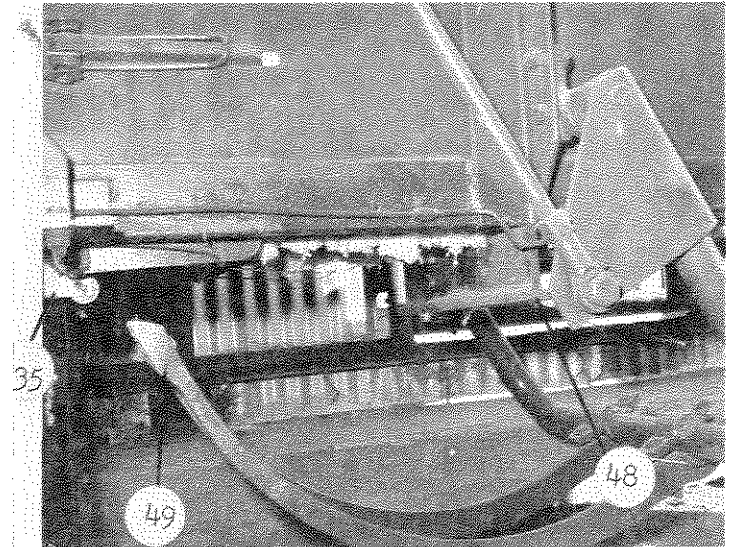
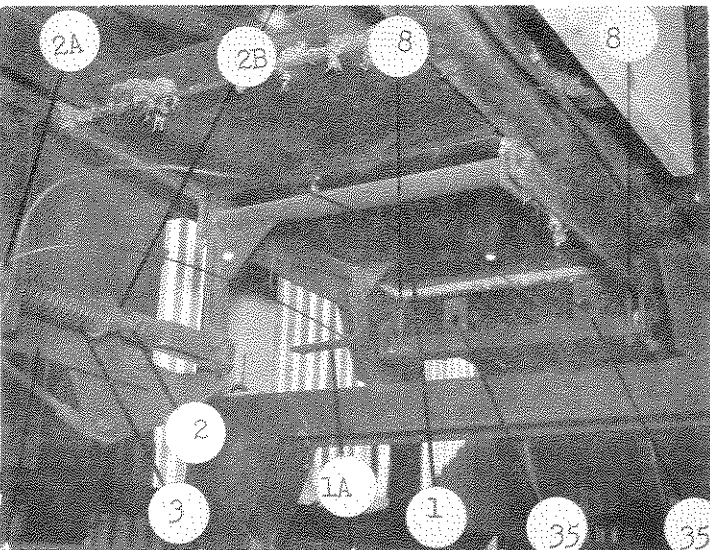
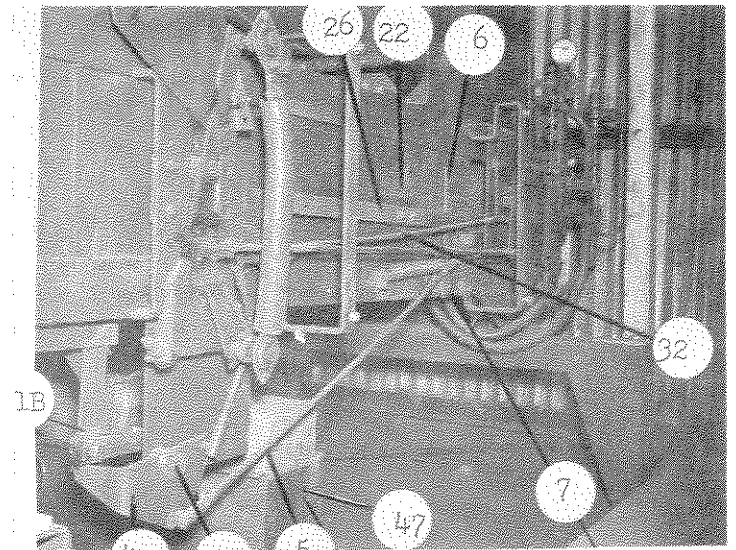

Fig. 4
Fig. 5
Fig. 6
1. Put wire in wire box with "start" end facing flared holes in box. Slide box under middle of baler with flared holes facing wire guides, Ref. 35, Fig. 5. Thread wire through eye and between the three rollers of the wire guides, Ref. 35, Fig. 4 and 5. Tie wire to cross frame, Ref. 48, Fig. 4. Knotter will thread itself when baler is in operation.
1. Packer Ref. 16, Fig. 8, operates continuously except during operation of plunger, Ref. 22, Fig. 6.
3. Material free falls into packer chamber, and is progressively compressed until the material is dense enough to overcome the trip door spring, Ref. 3, Fig. 5, causing the trip door, Ref. 1, Fig. 5, to move downward during the compression stroke of the packer.
4. When the trip door moves downward, the trip door latch, Ref. 4, Fig. 6, catches over the end of the trip door spring hanger, Ref. 1B, Fig. 6, holding trip door, Ref. 1, Fig. 5, in down position. At the same time the packer toggle catch, Ref. 12, Fig. 7, is moved downward into engaged position.
8. The plunger, Ref. 22, Fig. 6, moves rearward on the compression stroke, compressing the prepacked material until the bar driving stud, Ref. 27, Fig. 9, moves the plunger operating bar, Ref. 26, Fig. 6, sufficiently to shift the plunger toggle lever, Ref. 23, Fig. 9.
10. As the plunger moves forward, the trip door reset lever, Ref. 6, Fig. 6, drives the reset operating lever, Ref. 7, Fig. 6, to the reset position, allowing the trip door, Ref. 1, Fig. 5, to return to its upper position.
2. Adjust trip door spring adjusting nuts Ref. 2B, Fig. 5, to obtain 10 lbs. force on trip door handle Ref. 1A, Fig. 5.
3. Adjust trip rod stop nuts, Ref. 2A, Fig. 5, until rear tip of trip door, Ref. 1, Fig. 5, is one inch above bottom plate of baler.
4. Adjust trip door stop bolts, Ref. 8, Fig. 5, to stop rear tip of trip door flush with bottom plate of baler.
5. Adjust latch pivot bolt, Ref. 4A, Fig. 6, in trip door latch, Ref. 4A, Fig. 6 to position latch to allow 1/32" clearance between latch and trip door spring hanger, Ref. 1B, Fig. 6, when trip door, Ref. 1, Fig. 5, is against stop bolts, Ref. 8, Fig. 5.
6. Adjust trip door reset rod, Ref. 5 Fig. 6 to allow trip door latch to catch 1/2" over end of trip door spring hanger, Ref. 1B, Fig. 5.
11. Disconnect reset rod, Ref. 5, Fig. 6. Start baler and depress trip door by pressing down on trip door handle, Ref. 1A, Fig. 5. The plunger will now run continuously. Adjust plunger valve operating rod, Ref. 28, Fig. 9, until toggle lever, Ref. 23, Fig. 9, exerts same force as it shifts past center in both directions.
13. Adjust plunger toggle catch operating rod, Ref. 32, Fig. 6, with nuts on rear end of rod to position upper tip of hook on plunger toggle catch, Ref. 31, Fig. 9, 1/8" below pin on plunger toggle lever, Ref. 23, Fig. 9, when plunger is moving toward rear of baler.
15. Adjust plunger operating bar, Ref. 26, Fig. 6, by installing bolts in its center, in alternate holes, until plunger, Ref. 2, Fig. 6, travel toward rear of baler is 1/2 inch less with bolts removed than it is with bolts installed.
16. Adjust trip door reset lever, Ref. 6, Fig. 6, until it catches reset operating lever, Ref. 7, Fig. 6, 3/16 inch below its upper tip. This adjustment is made by loosening pivot bolt on reset lever, Ref. 6, Fig. 6, and sliding vertically in slotted hole in plunger, Ref. 22, Fig. 6.
18. To adjust maximum hydraulic pressure, remove center bolts from plunger toggle operating bar, Ref. 26, Fig. 6. Depress trip door handle, Ref. 1A, Fig. 5, allowing plunger to extend to the end of its stroke. Adjust plunger relief valve, Ref. 37, Fig. 9, to obtain hydraulic gauge reading of 1500 psi.